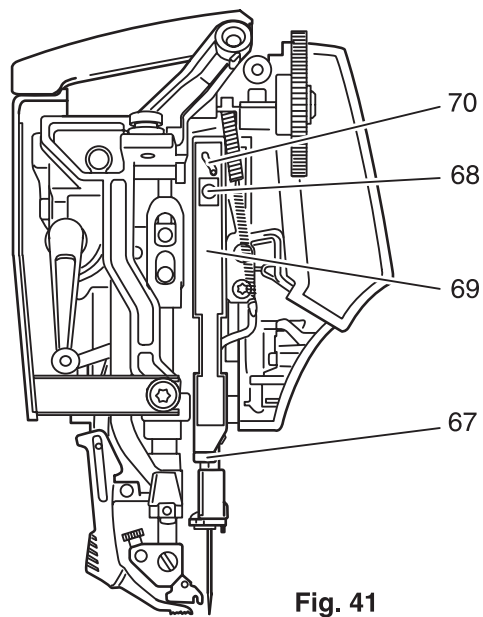

Fig. 41
- Push threader key 67 fully down (Fig. 41 and 42).
- Press threader key 67 fully down and hold it in this position (fig. 41).
- Tighten allen screw 68 in this position (fig. 41).
- Activate threader key 67 (fig. 41). Whilst doing so, carry out a visual check of the lateral position of the prong.